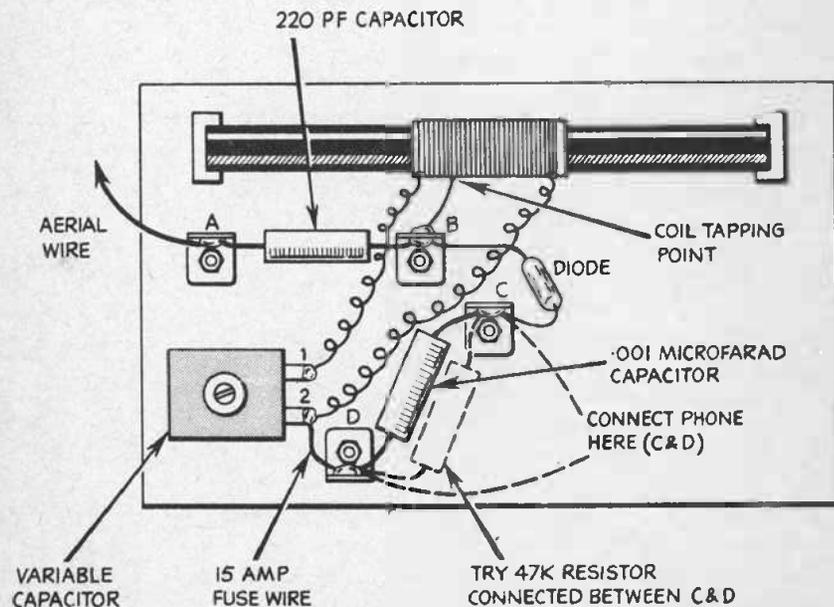
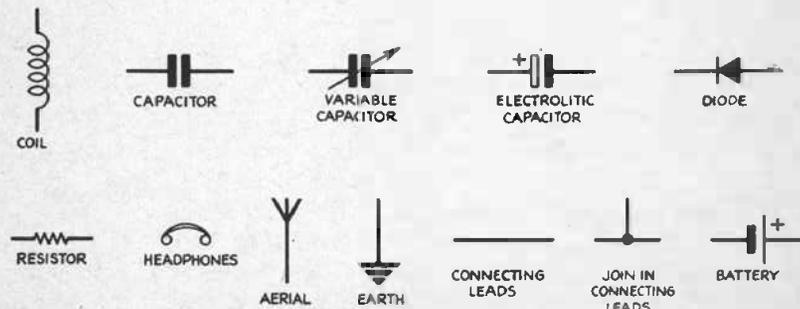
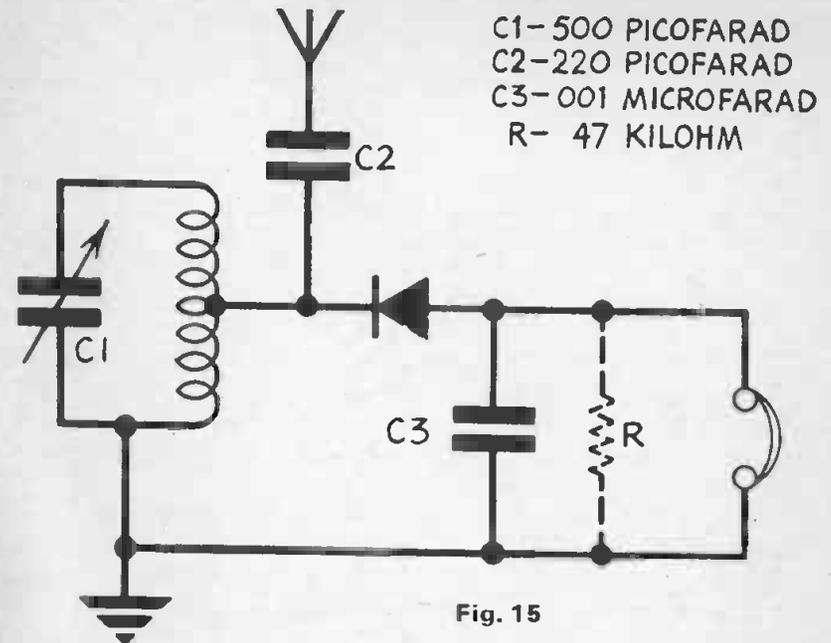
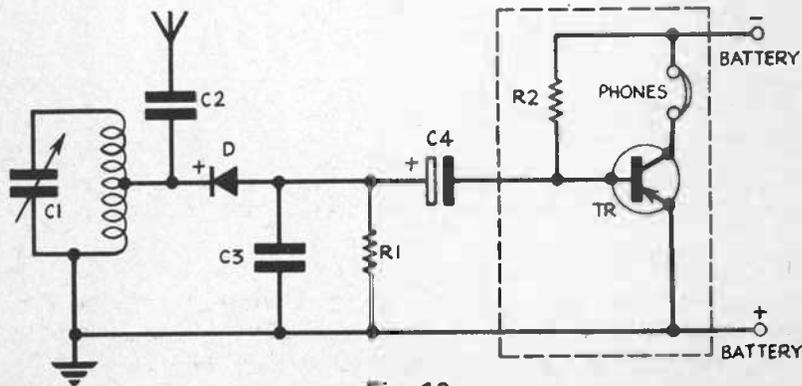

Fig. 13
Fig. 14
Fig. 15
Fig. 18
- 3 Connect one wire of the coil to one of the tags of the variable capacitor, and the other coil wire to the other tag of the variable capacitor. Connect this side (2) to tag D with a length of 15 amp fuse wire.
- The complete assembly should then look like *fig. 13*. Check over all the connections. The headphones are then connected to tags C and D, and the aerial wire to tag A. The earth wire
Rather than planning a circuit showing all the components in positions as in *fig. 13*, the usual way of drawing a plan of a radio circuit is to use symbols for the components. This makes it much easier to understand, once you know what the symbols mean (*fig. 14*).
The circuit we have used in Parts 3 and 6 is shown drawn in symbol form in *fig. 15*. This is the way the plan of any radio set is normally given. It is called a *theoretical circuit*, which shows all the components and how they are connected. But it is not a wiring up diagram, for the components will almost certainly have to be laid out differently on a base panel. Compare this figure with *fig. 13*, for example, which is a wiring diagram. A theoretical circuit gives all the information you need to build that particular design, but you still have to work out a suitable wiring diagram.
Fig. 18 shows a theoretical circuit for the crystal set with an amplifier stage added. This is the same as fig. 15 with the addition of some new components:
Follow the same assembly instructions as for *fig. 13*, then connect up the additional components. C4 is connected between tags C and F. R2 is connected between tags F and H. Then connect tag H to J with a length of 15 amp fuse wire, and connect tags D, E, K and L together with a length of 15 amp fuse wire.
The actual *amplifier stage* is enclosed by the dotted 'box' (*fig. 18*). To add a second stage of amplification:
You can go on adding two, three, four or even more stages of amplification in this way, but the results will not be satisfactory. You will find that in addition to increasing the volume of the sound you are also getting *distortion* and a lot of unwanted sounds as well. One stage of amplification (*fig. 18*, for example) is very worthwhile. Two stages of amplification (one further stage added to *fig. 18*) may be worthwhile, but you will almost certainly get some distortion of the sound and loss of quality. Any further number of stages may increase the volume, but the quality of reception will be poor.
This circuit is really the same as *fig. 18*, except that a different value for resistor R2 is used, and the phones are connected to the emitter side of the transistor rather than the collector side. It will work better where signals are very weak, and perhaps pick up stations that *fig. 18* would not.
The circuit we developed in *fig. 18*, with one stage of amplification, is a very good one. But it can be improved on. The performance of a transistor tends to vary with changing current passing through it—as it does when amplifying the sound signals. To overcome this we need to add some more components to *stabilise* the transistor.